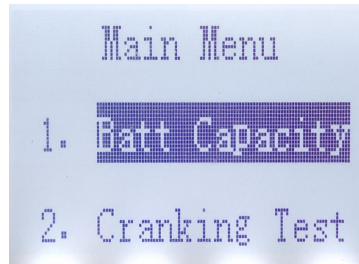

Figure 2
(2) Press the OK key to enter, according to the required test requirements, press the triangle up or down key to select the corresponding test unit. Figure 2: